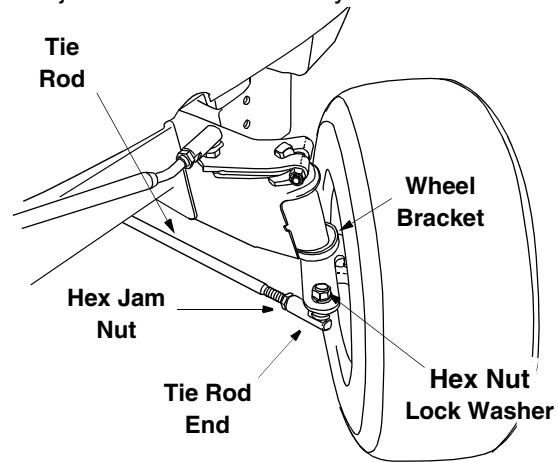

Figure 17
1. Remove the hex nut and lock washer, and drop the end of the tie rod from the axle bracket. See Figure 17.